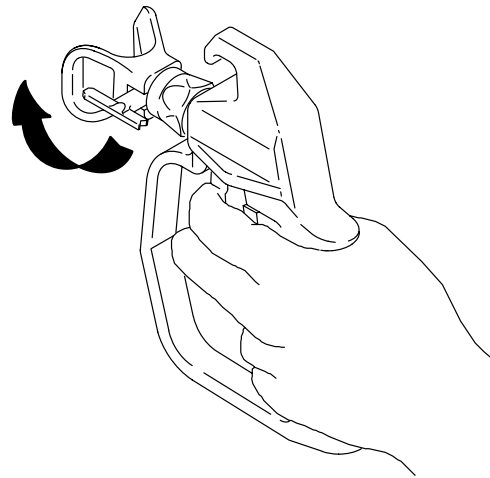

Fig. 6 0278
13. If you have a Reverse-A-Clean IV tip guard on your gun and the tip clogs while spraying, release the gun trigger, lock the trigger safety lever, and rotate the spray tip handle 180°. See Fig. 6.